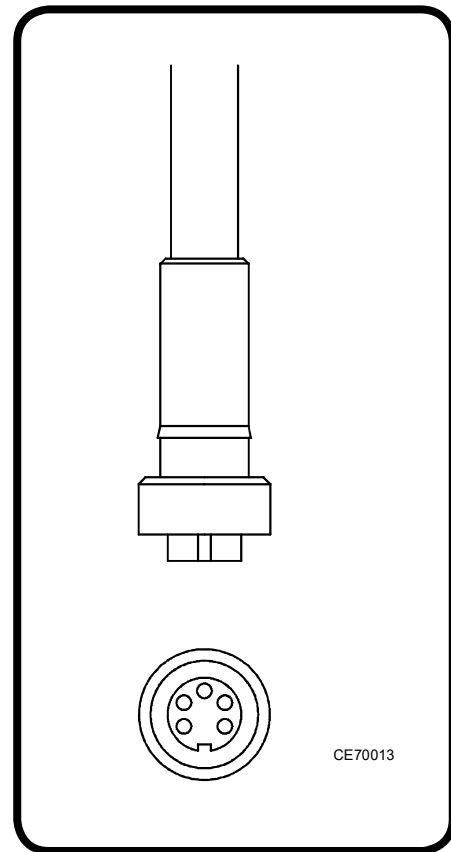

Figure 8: Installing the Burner Power Cord
- (4) Refer to Figure 8
- (5) Line up the key in the receptacle with the slot in the cord.
- (6) Tighten the electrical cord when in position.